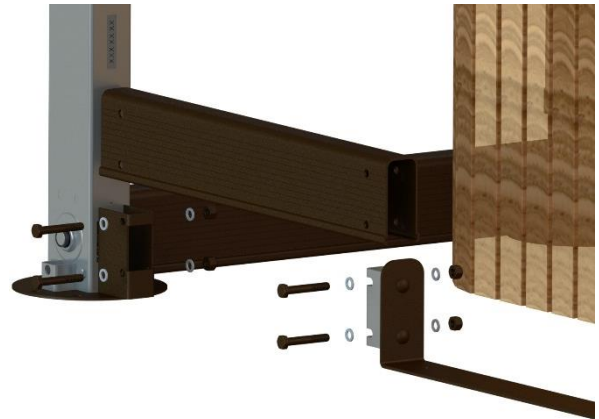

Figure 51
- 15) Fasten a short U-frame to each end of the front frame cut-out and then install the entire assembly between the front posts. Use four hexagonal 5/16"-18 x 2" bolts, four 5/16"-18 nylon-insert lock nuts and eight 5/16" plastic washers per side. Use 1/2" (13 mm) socket wrench and spanner. (Figure 51)